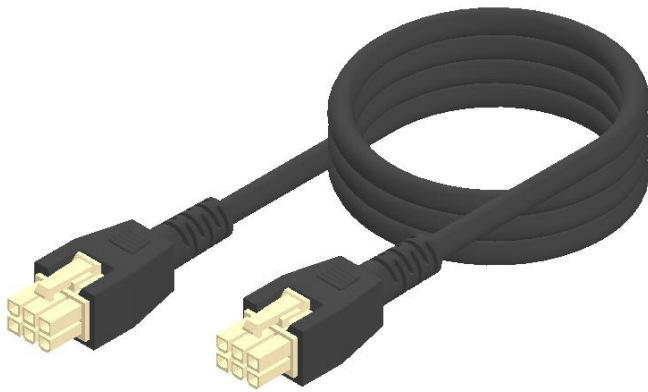

fig. 3
2. Connect the Flatlift (fig. 1 No. 3) to the motor cable (S.07 fig. 3) and this with the control box (fig. 2 No. 5) to connection "1" - "2". Motor cables must be connected starting from port 1 in ascending order.